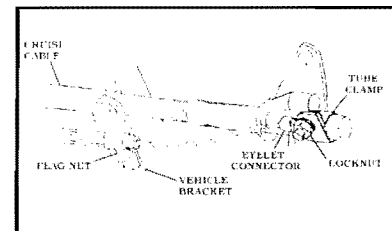

Figure 15
4. Figure 15 is an example of a Ford™ Throttle connection using the TUBE CLAMP.